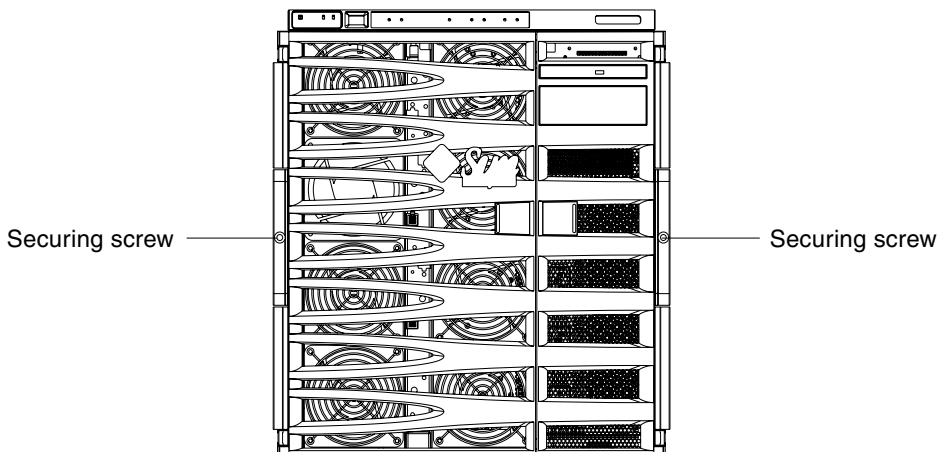

FIGURE 1-12 Tightening the Securing Screws
12. Tighten the two securing screws on the front of the system to secure the system in the cabinet (FIGURE 1-12).